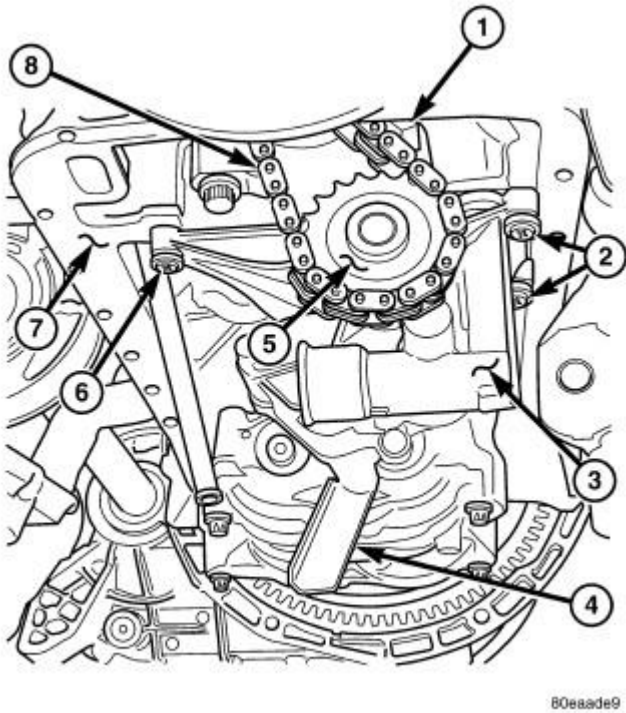

Fig. 202: Oil Pump Assembly
5. Remove oil pump retaining bolts (2,6). See **Fig. 202**.
6. Push on oil pump chain tensioner (1) to release tension on chain and remove oil pump chain (8) from oil pump sprocket (5). See **Fig. 202**.
7. Remove oil pump (3).